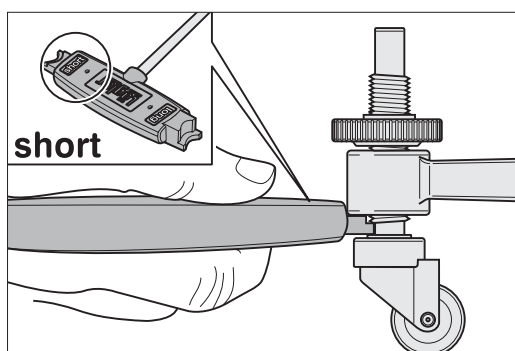

Fig. 44 Standard setting for the short attachment and the corner attachment.
- 3 Hold the appropriate universal spanner alignment mark for attachment used between the guide roller and fan housing, namely so that the lettering on the spanner faces towards the fan housing (Fig. 44 + 45).